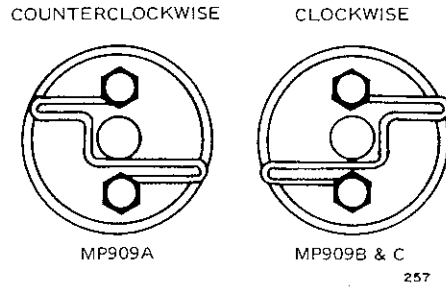

Fig. 8. Spring Clip Orientation.
5. Reassemble end cap assembly. See Figure 8 for spring clip orientation.